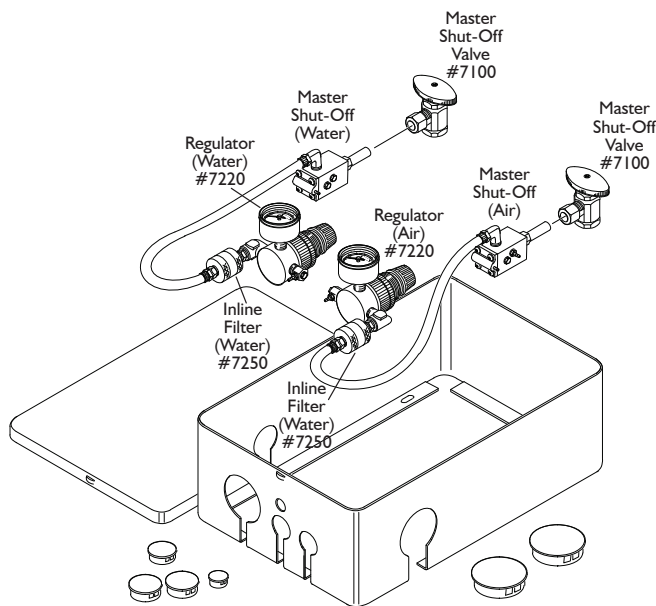

Figure 1
1. Install the manual shut-off valves on the air and water pipes, using pipe compound or teflon tape. Use a 15/16” wrench to firmly tighten the valves, leaving them facing in the direction shown in (Figure 1).